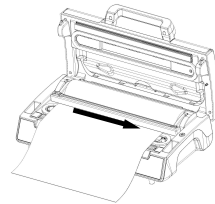

Fig.4
4. Put down the cutter rack and make sure it is in the right place for the bags, then slide the cutter from one end to the other end to cut the bag - **Fig.4**